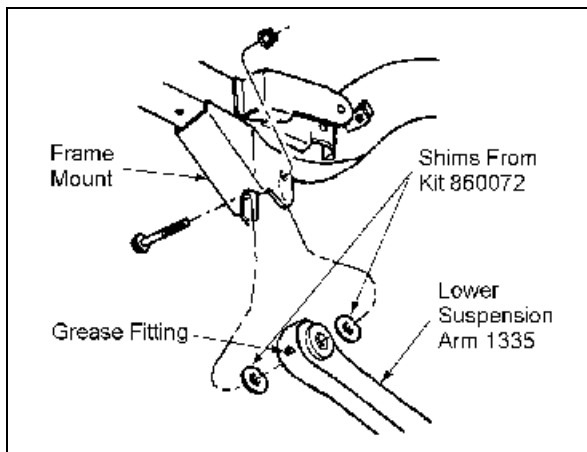

Figure 9
3. ≤ Install a new Rancho lower suspension arm, along with four shims from kit 860070, to the frame and axle brackets. See figure 9. Use original hardware but do not tighten.